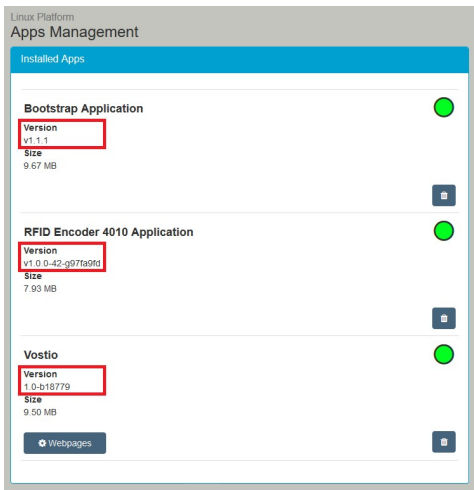

Figure 36
1. Click **Apps** in the menu bar of the web interface. The versions are shown as in Figure 36.